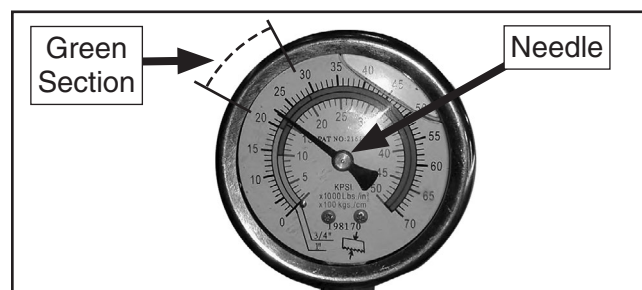

Figure 25. Tension setting for 1" wide blades.
5. Tighten blade until tension gauge needle moves into outer green section of scale for 1" wide blades, as shown in **Figure 25**.